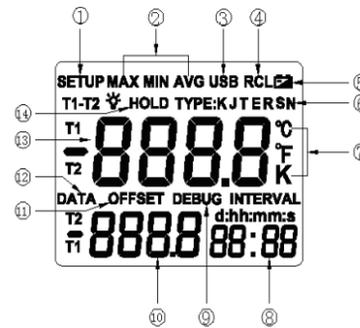

Figure 2. Display LCD Display
- Figure 2 and Table 4 for LCD display;